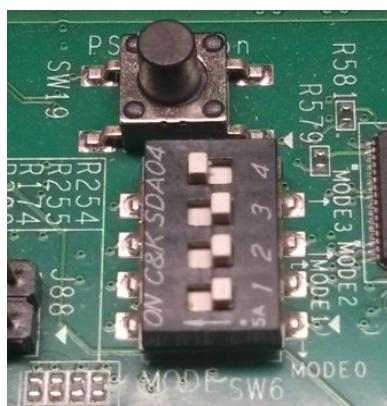

Figure 5-31: SW6 Settings for USB Boot Mode
4. Start a terminal session, using Tera Term or Minicom depending on the host machine being used, as well as the COM Port and baud rate for your system, as shown in Figure 5-31.